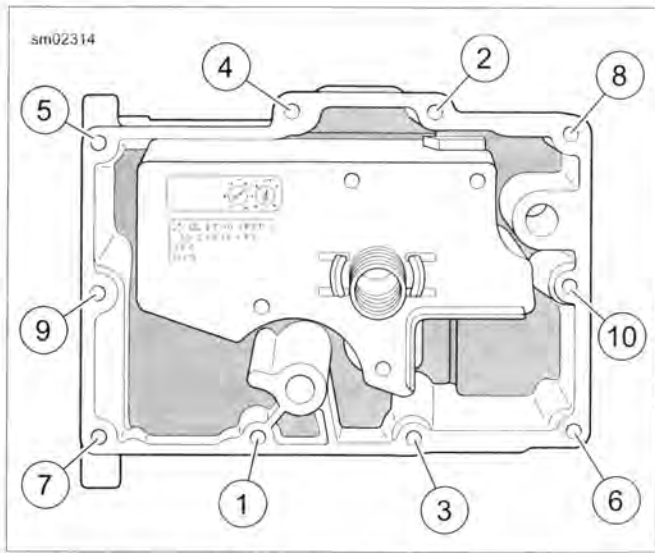

Figure 3-134. Oil Pan Torque Sequence
6. Position oil pan with gasket on bottom of transmission and loosely install screws (8). Tighten to 132-156 **in-lbs** (14.9-17.6 Nm) following sequence shown in Figure 3-134.
8. Install transmission drain plug and O-ring (5). Tighten to 14-21 ft-lbs (19.0-28.5 Nm).
9. Install engine oil drain plug and O-ring (3). Tighten to 14-21 ft-lbs (19.0-28.5 Nm).